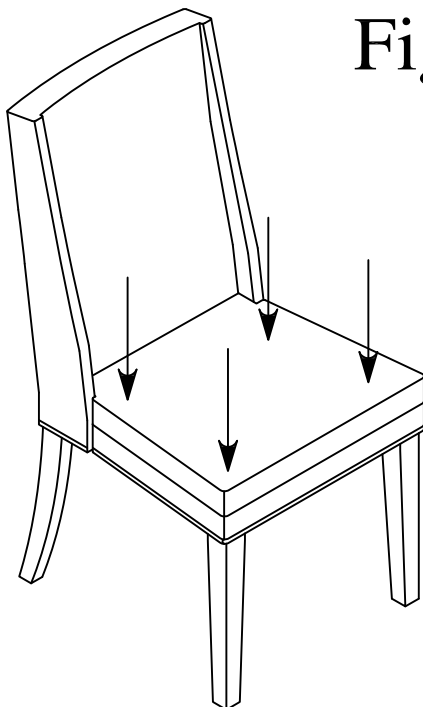

Fig.4
Step 4: Place the loosely assembled chair on a hard flat surface and apply gentle downward pressure on the seat. As shown on Fig.4. Once the chair is balanced and leveled, fully tighten all bolts.